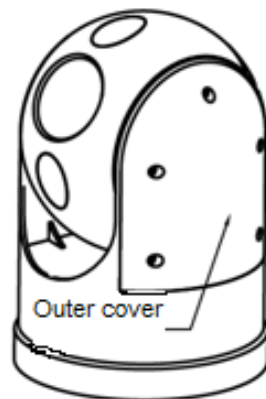

Figure 4
3.1 As Figure 4 shows, please remove the outer cover and take out it;